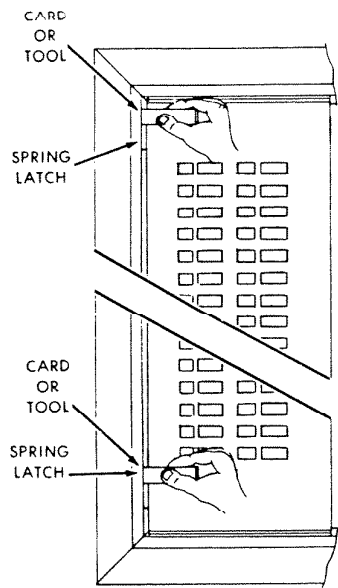

Fig. 1
Removal of 476 or 477 if located in Entrance Directory, see Fig. 1.
1. Insert a narrow stiff card, paper clip, narrow metal ruler or similar tool between the panel and frame of Entrance Directory pushbutton panel next to speaker panel. Push down simultaneously on top and bottom latches while applying pressure to open panels. See Fig. 1 & 2.